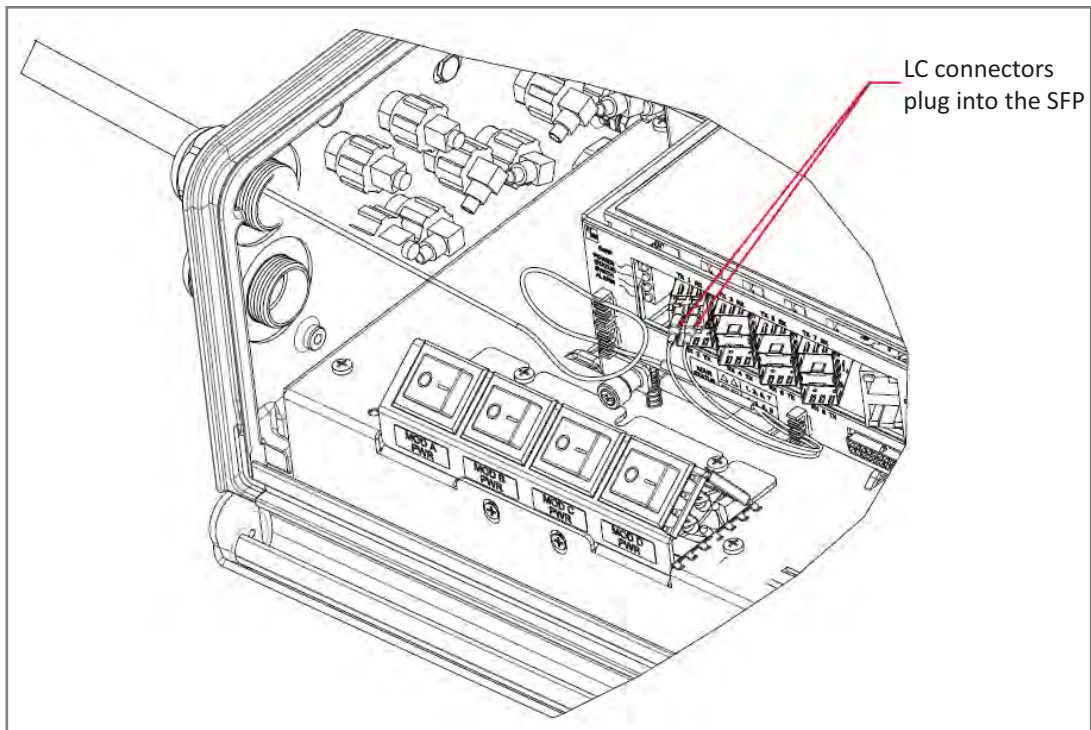

Figure 15. Connect LC Connector to SFP—Standard Configuration
- for standard configurations, see Figure 15 on page 63